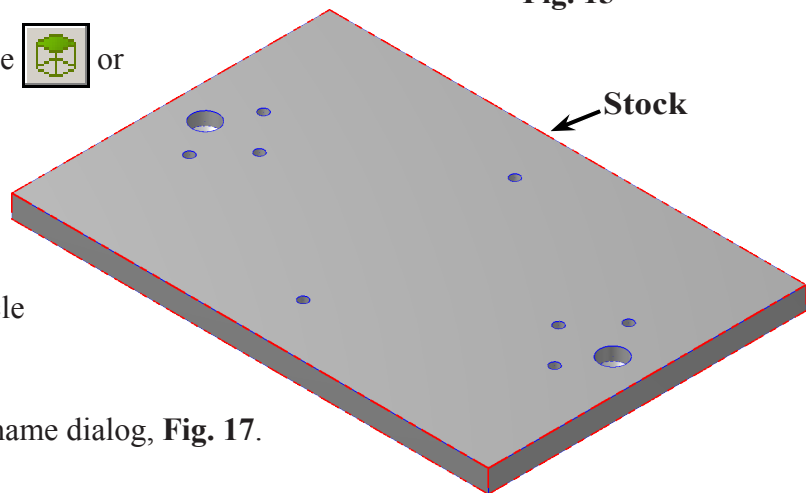

Fig. 16
Step 8. Click OK  in the Machine Group Properties. The Stock is displayed as red wireframe, **Fig. 16**.